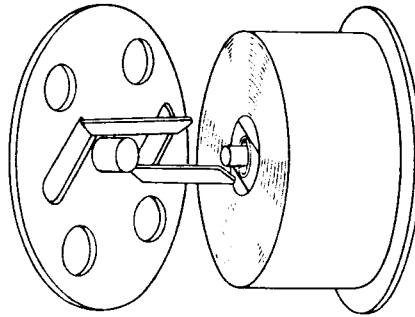

Fig. 4
4. By moving the reel from side to side, remove the left-side disc plate and slip the wound journal paper off the reel. Replace the left side disc plate. (Fig. 4)